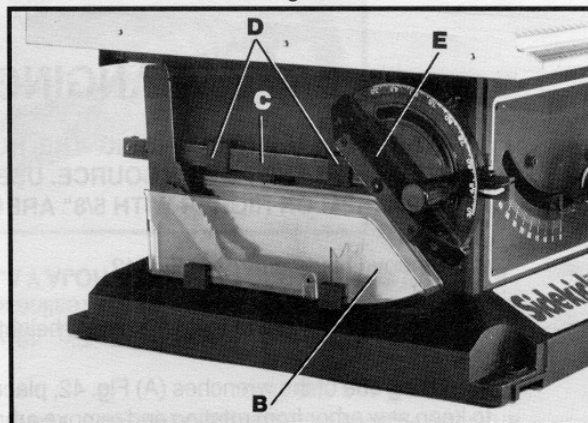

Fig. 44
2. The miter gage bar (C) Fig. 44, is inserted into the two holders (D) on the left side of the saw cabinet. **NOTE:** The miter gage head (E) can be rotated to conform with the angle of the blade guard (B). Also, the miter gage bar (C), can be inserted into the two holders (D) from the rear of the saw if desired.